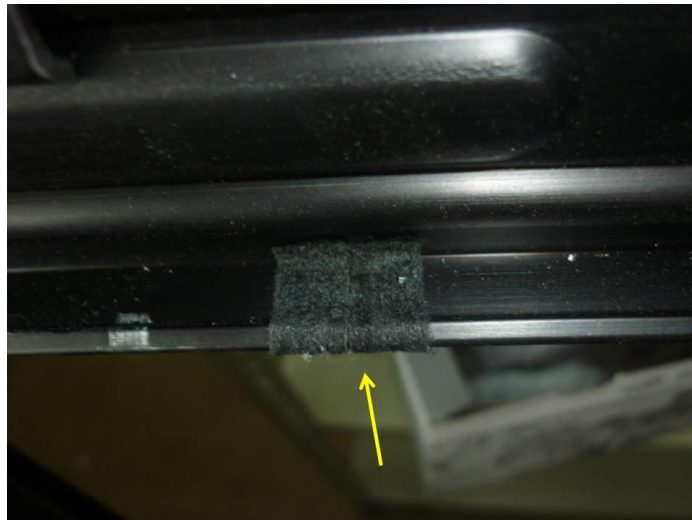

Figure 4. Application area on sunroof frame area of clip engagement.
5. Apply fleece adhesive tape to the sunroof frame lip at each clipping point (Figure 4).